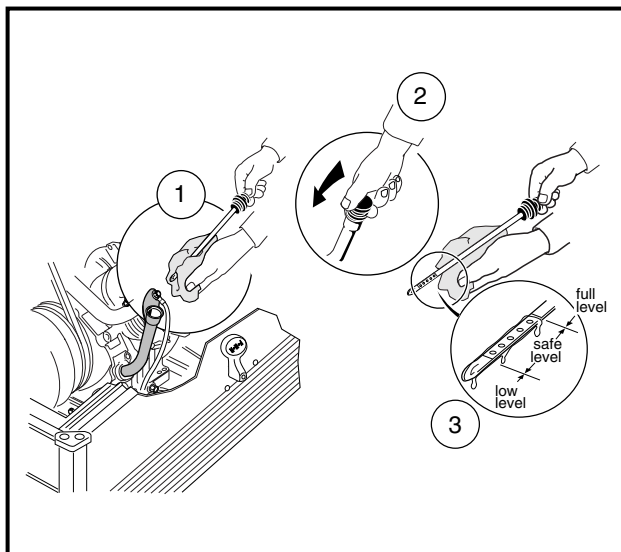

Figure 16 Engine Oil Level Check
1. Remove the oil level dipstick from the oil filler tube and wipe oil from dipstick (**Figure 16**). See following **CAUTION**.